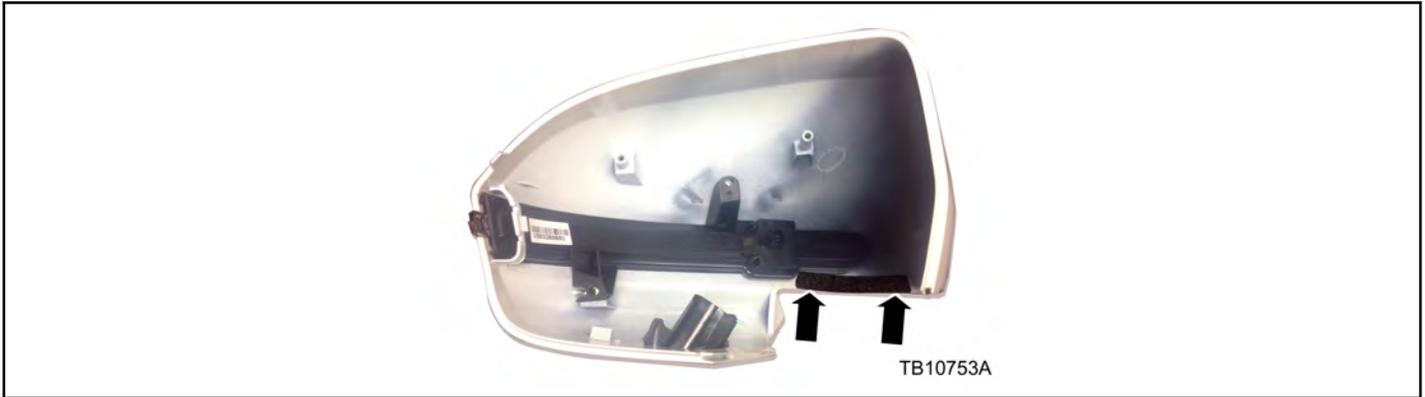

Figure 6 - Article 15-0159
8. Install foam seal tape. (Figure 6)